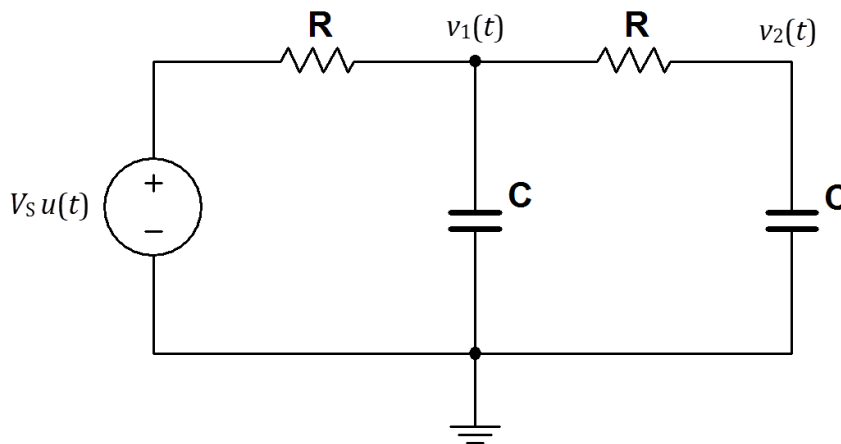

Figure 6.4: Circuit for Problem 6.4
1. Develop a differential equation for each node voltage $v_1(t)$ and $v_2(t)$ in the circuit of Figure 6.4. Solve each equation to determine $v_1(t)$ and $v_2(t)$ for $t \geq 0$. The component values are $V_S = 9$ volts, $R = 10$ k Ω and $C = 0.1$ μ F.
1. Enter the circuit of Figure 6.4 on the previous page using the same component values listed in the problem statement. Implement the voltage source as a step function using either a `PULSE_VOLTAGE` source or an `ABM_VOLTAGE` source configured to place the step change at 1 ms; this delay makes the initial transition easier to see.
1. Construct the circuit of Figure 6.4 on the preceding page using the same component values listed in the problem statement. Implement the voltage source using the NI ELVISmx Function Generator set to squarewave mode. Adjust the function generator settings to match the step-change voltage $V_{Su}(t)$; choose a frequency that is low enough to allow the NI ELVISmx Oscilloscope to display the 10 ms range without interruption.